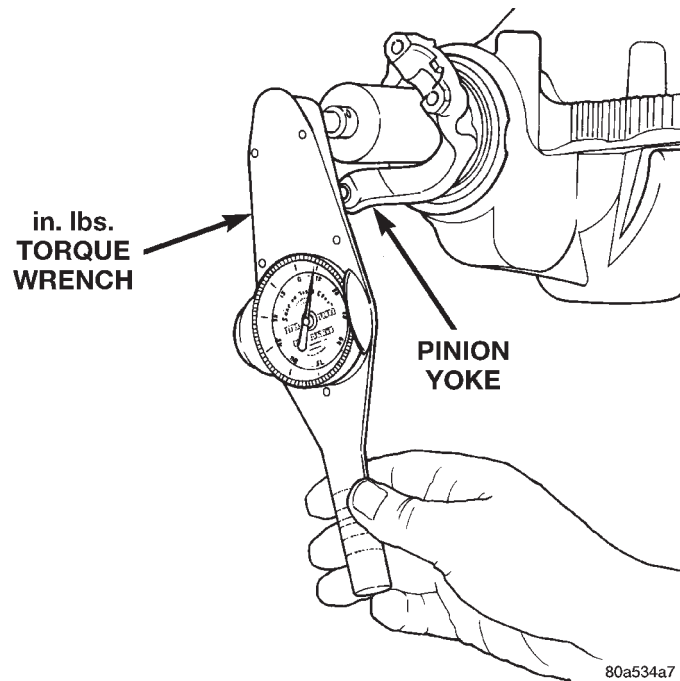

Fig. 40 Check Pinion Gear Rotating Torque
(11) Check bearing preload torque with an inch pound torque wrench (Fig. 40). The torque necessary to rotate the pinion gear should be:
(12) If rotating torque is above the desired amount, remove the pinion yoke and increase the preload shim pack thickness. Increasing the shim pack thickness 0.025 mm (0.001 in.) will decrease the rotating torque approximately 0.9 N·m (8 in. lbs.).